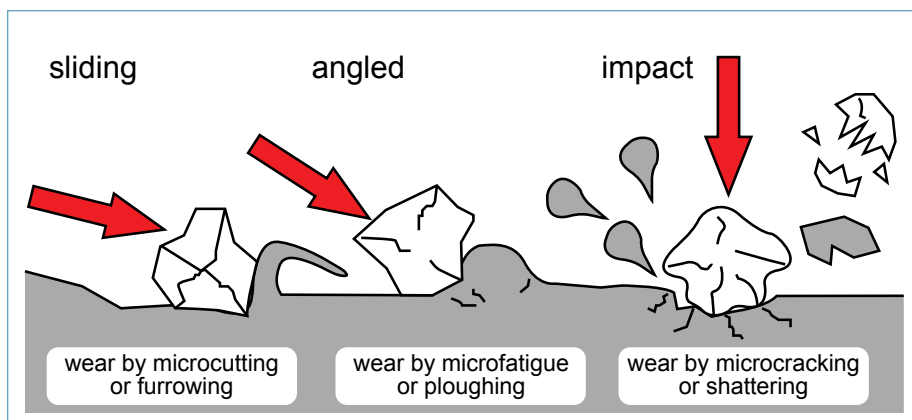

Figure 1 - Effects of particles hitting the housing surface inside the valve
The type of erosive wear depends on the angle of impact of the product on the surface of the component. Depending on use, this results in sliding erosive wear (angle of flow parallel to the surface), angled erosive wear (angle $>0^\circ$ and $<90^\circ$ to the surface), or impact wear (impact angle = 90°). As shown in Fig. 1, sliding erosive wear and
- > Particle angle (Fig. 1)